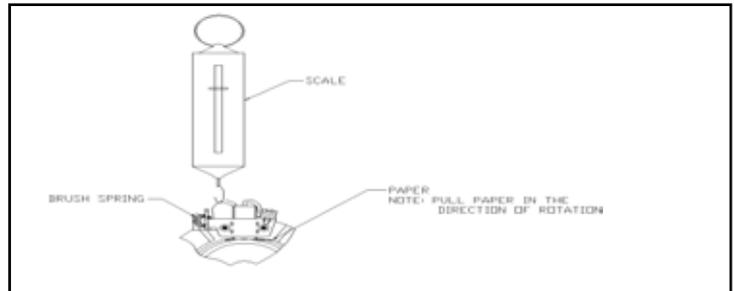

Figure 8. Brush Tension Testing
- a. Place paper strip between brush face and commutators. See Figure 8.